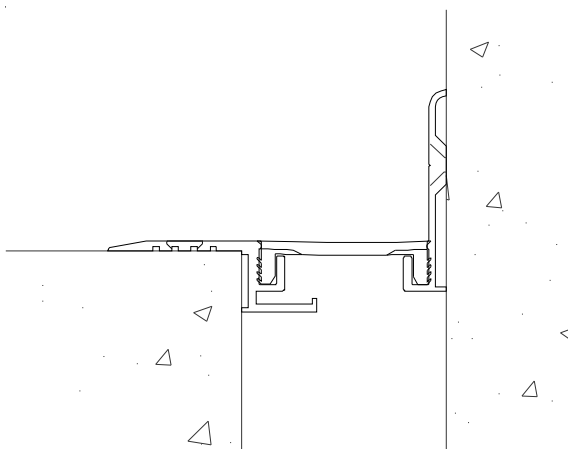

Figure 6
STEP 9. Place the assembled joint cover into its installed position over the joint (see Figure 6). Ensure that the system is plumb, level, properly aligned, and